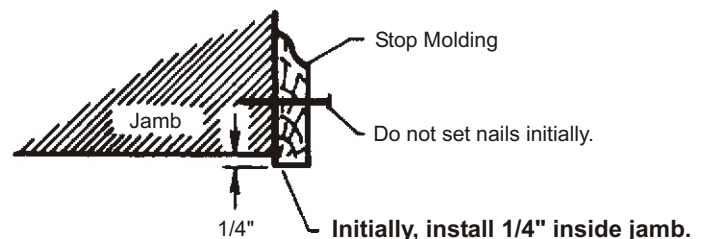

FIGURE 4-3
1. Stop molding is required to correctly install this door. It must be installed inside door opening on jambs and header. Refer to Figure 4-3 on proper location of the stop molding in reference to the jamb.